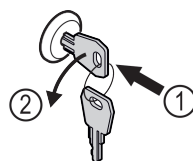

Fig. 183
- Insert the key. Fig. 183 (1)
- Turn the key anticlockwise by 90°. Fig. 183 (2)